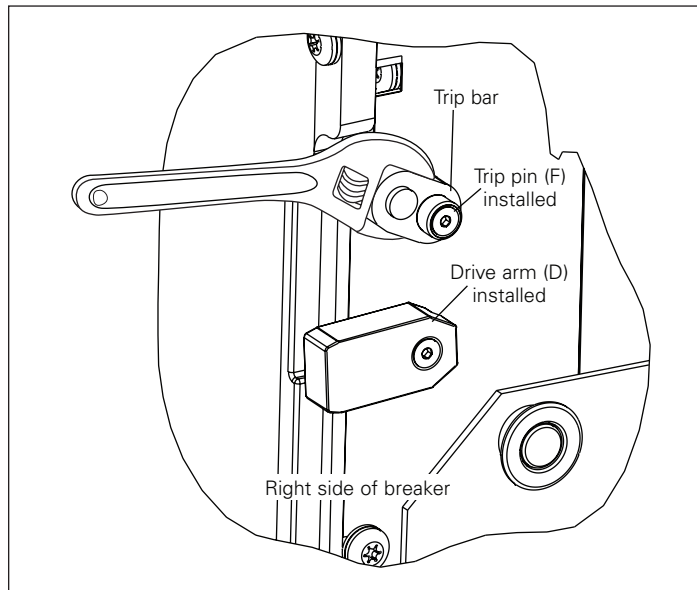
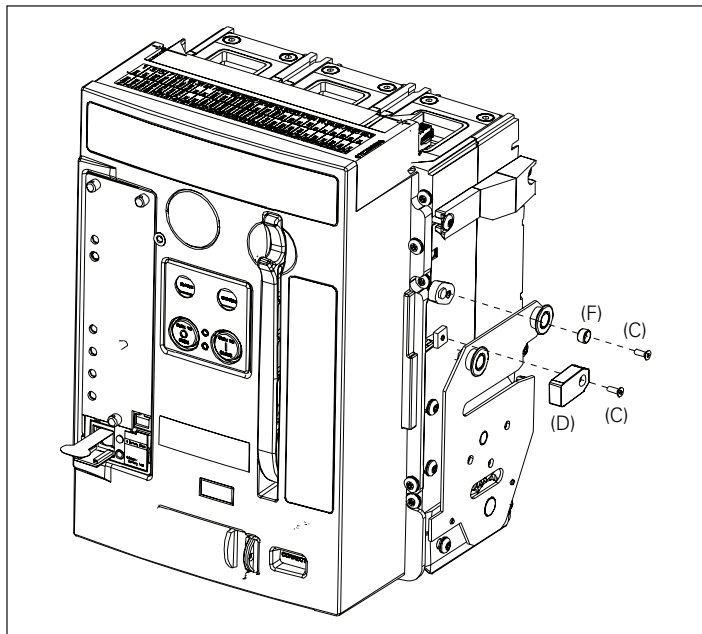

Figure 5. Details for Steps 1 and 2
Figure 4. Details for Steps 1 and 2
Install the drive arm (D) to the end of the pole shaft using one M3 x 8 mm flathead screw (C) as shown in **Figure 4** and **Figure 5**. Apply Loctite[®] Blue 242 to ensure that the screw cannot loosen during operation. The drive arm should be oriented as shown in **Figure 4** and **Figure 5**. Torque to 0,3–0,6 N·m (3–5 in-lb).
Install the trip pin (F) to the trip bar using an M3 x 8 mm flathead screw (C) while holding the trip bar with an adjustable wrench as shown in **Figure 4** and **Figure 5**. Apply Loctite Blue 242 to ensure that the screw cannot loosen during operation. Torque to 0,3–0,6 N·m (3–5 in-lb).